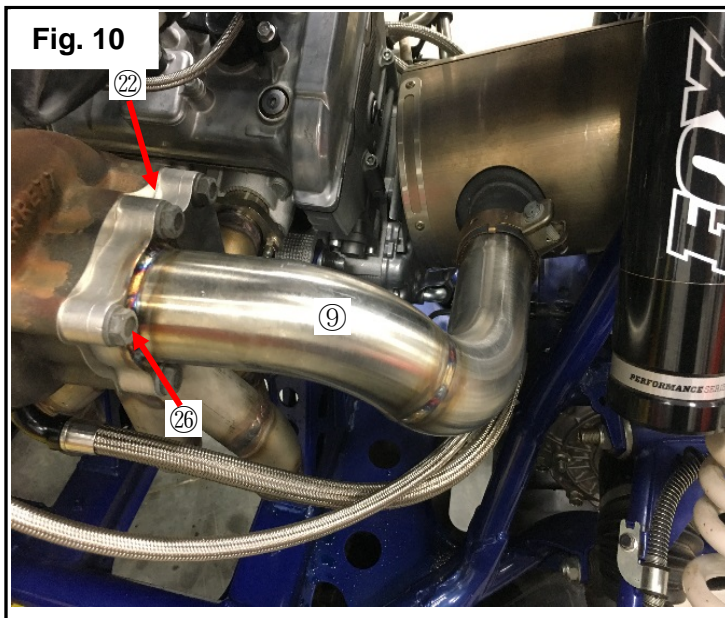

Fig. 10
- 16** Loosen the 4 OE bolts that hold the muffler to the frame and rear mounting bracket. Slide the pipe end of the Exhaust Downpipe 9 into the inlet of the muffler. Align the turbo side with the turbo outlet flange, and install the Turbo Outlet Gasket 22. Secure with five M8x35 Flange Bolts 26 and torque to 24N-m (2.4 kgf-m, 18 lb-ft). Torque muffler bolts and inlet clamp per the service manual. See Fig. 10.